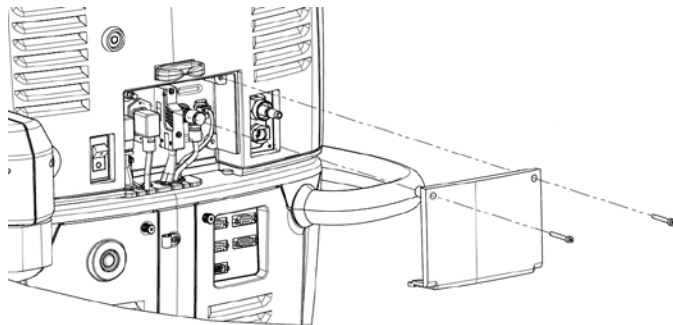

Figure 7-11. Rear Panel Connector Cover
27. Attach cable cover (packaged with base console accessories) to rear of table top using two hex screws (see Figure 7-11).